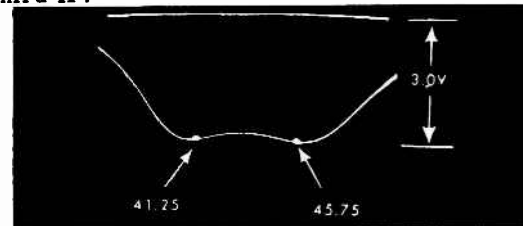

Fig. 4 4th IF Response
5. Adjust the sweep generator to obtain a pattern similar to Fig. 4 with a detector output of 3 volts peak to peak. Do not exceed this output during alignment.
6. Adjust the top and bottom cores of the fourth IF transformer to obtain a response similar to Fig. 4. The 41.25 and 45.75 Mc markers should be adjusted for symmetry and should fall as close to the response curve humps as possible. If the correct response curve cannot be obtained, check the position of the two cores to see that they are not butted but are entering their respective windings from the opposite ends of the coils.